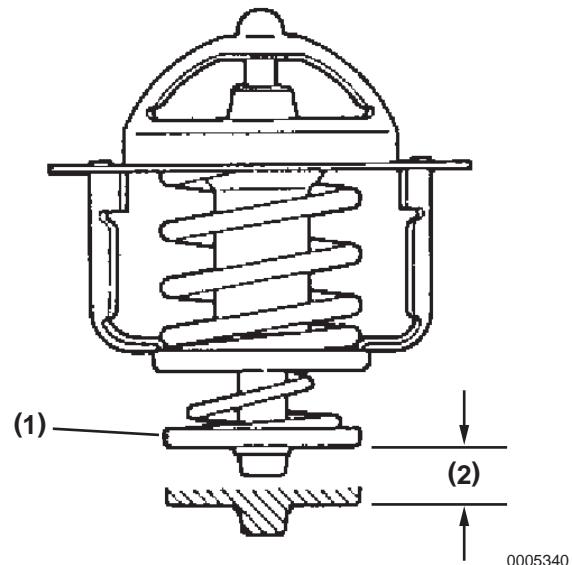

Figure 7-12
8. Check the valve lift (**Figure 7-12, (2)**). The valve lift must measure 10 mm (0.393 in.) or more at 90°C (194°F). If the valve lift does not satisfy the specification, replace the thermostat.
9. Check that the valve spring strongly presses the against the seat **(Figure 7-12, (1))** when the thermostat is closed completely. If not, replace the thermostat.